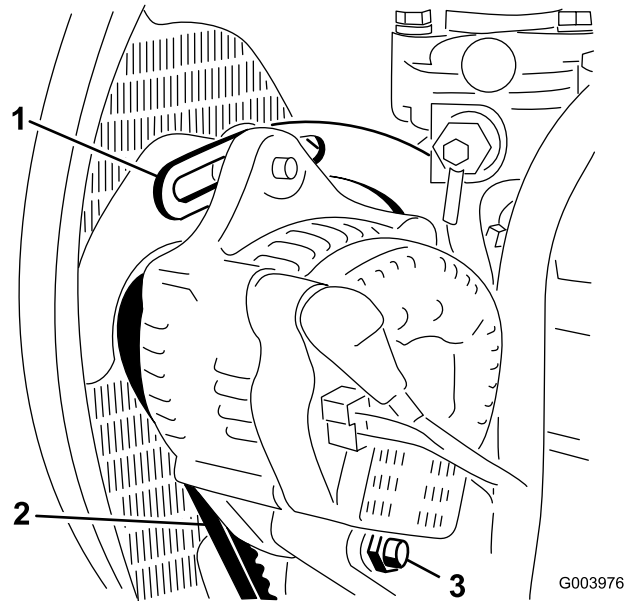

Figure 77
2. Check the tension of the alternator belt by depressing it (Figure 77) midway between the alternator and the crankshaft pulleys with 10 kg (22 lb) of force.
3. Loosen the bolt securing the brace to the engine (Figure 77), the bolt securing the alternator to the brace and the pivot bolt.